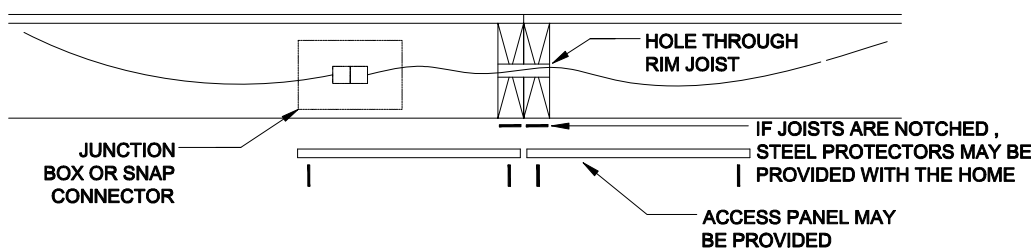

Figure 39. Electrical crossover floor wires with flush access panels
1. **Access wires.** Find the crossover location(s) and remove the access panel(s) if attached. If access panel openings are not provided, cut through bottom board to expose the wiring (**Figure 39**).